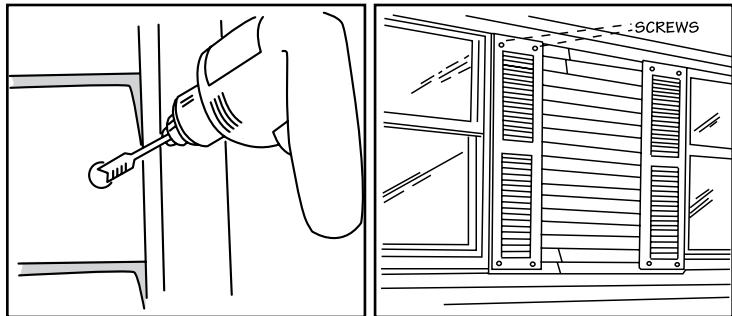

Figure 75.
- Using the hole marks as a guide, drill expansion holes through the siding where attachment screws will be located, a minimum 1/4" (6.4mm) larger than the diameter of the screw (Fig. 75).